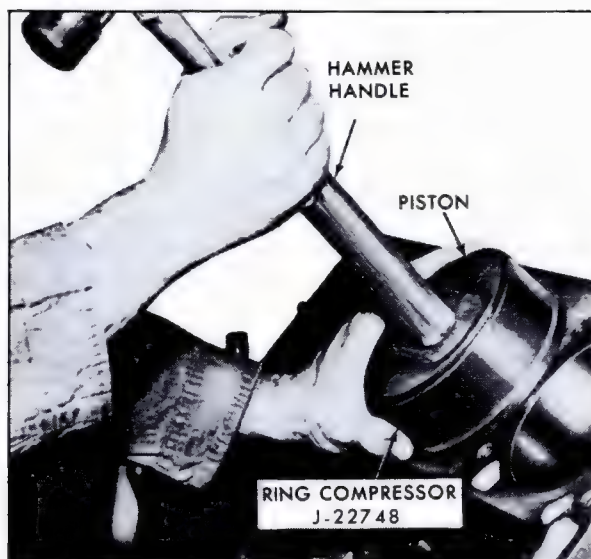

Fig. 6-131 Installing Piston in Cylinder Block
3. Using Piston Ring Compressor, J-22748, position capless rod and piston in cylinder bore with arrow in trough pointing toward front of engine (letter "R" on piston toward rear) Fig. 6-131.